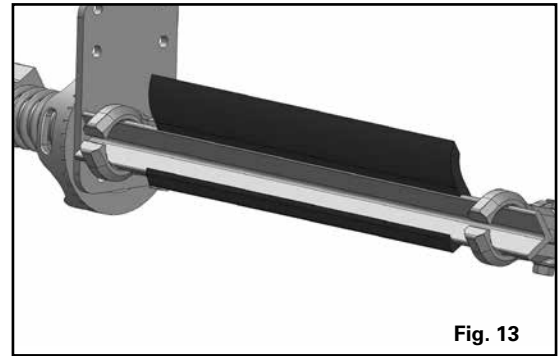

Fig. 13
1. Relieve tension on FGS system blade (Fig. 13).